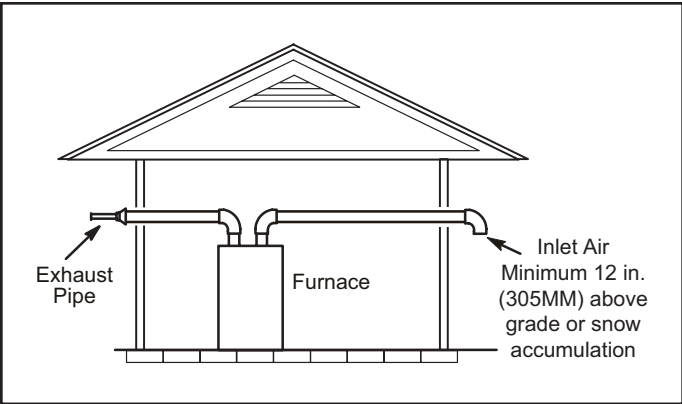
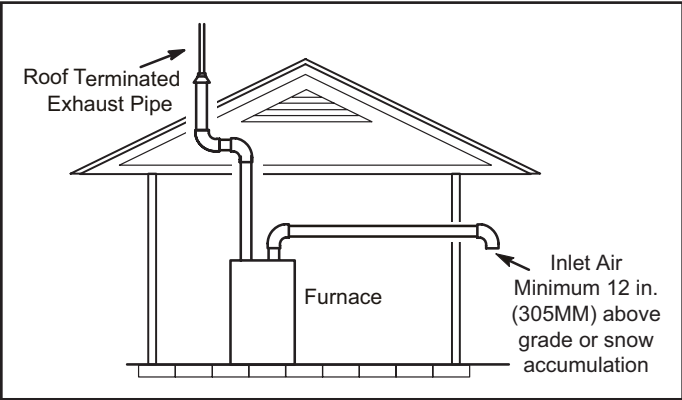

Figure 23. Exiting Exhaust and Intake Vent (no common pressure zone)
Figure 24. Exiting Exhaust and Intake Vent (no common pressure zone)
- 1. Intake and exhaust terminations are not required to be in the same pressure zone. You may exit the intake on one side of the structure and the exhaust on another side (Figure 23). You may exit the exhaust out the roof and the intake out the side of the structure (Figure 24).